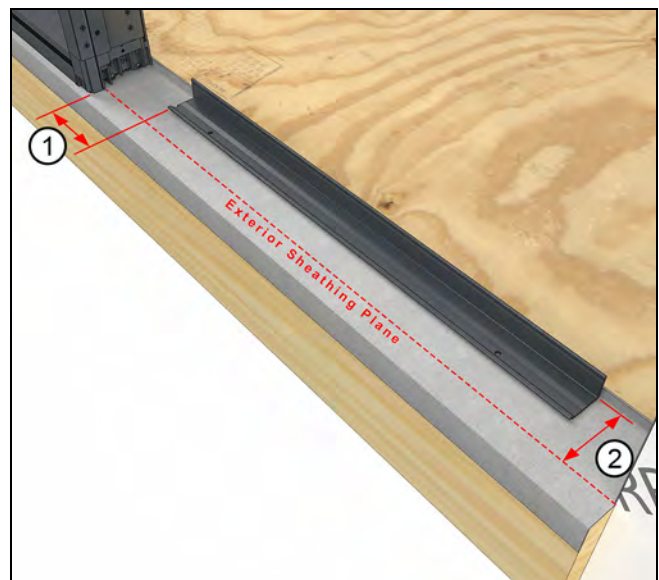

Figure 192
15. When the next unit in the assembly is a door, measure 4 7/16" (113) from the jamb of the first door. Make a mark and install the second sill support at this location, 3 5/16" (84) from the exterior sheathing line. See Figure 192.